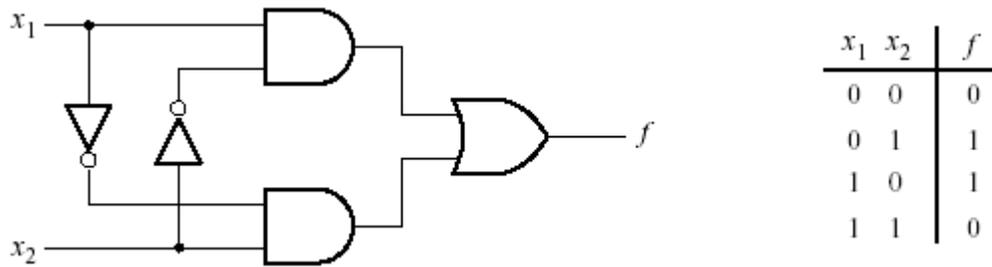
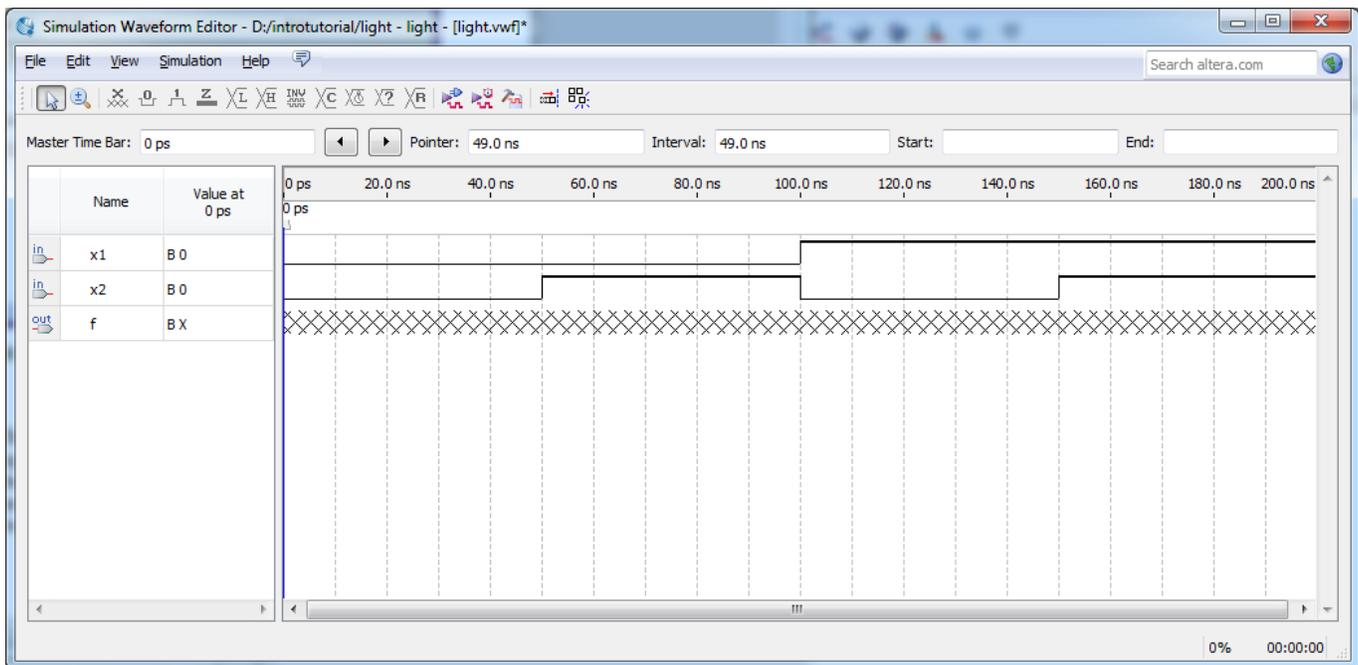

Figure 9. The light controller circuit.
Figure 29. Setting of test values.
As a design example, we use the two-way light controller circuit shown in Figure 10. The circuit can be used to control a single light from either of the two switches,  $x_1$  and  $x_2$ , where a closed switch corresponds to the logic value 1. The truth table for the circuit is also given in the figure. This is just an Exclusive-OR function of the inputs  $x_1$  and  $x_2$ , but we will specify it using the gates shown in Figure 9.
To simulate the behavior of a large circuit, it is necessary to apply a sufficient number of input valuations and observe the expected values of the outputs. In a large circuit the number of possible input valuations may be huge, so in practice we choose a relatively small (but representative) sample of these input valuations. However, for our tiny circuit we can simulate all four input valuations given in Figure 9. We will use four 50-ns time intervals to apply the four test vectors. We can generate the desired input waveforms as follows. Click on the waveform name for the  $x1$  node. Once a waveform is selected, the editing commands in the Waveform Editor can be used to draw the desired waveforms. Commands are available for setting a selected signal to 0, 1, unknown (X), high impedance (Z), don't care (DC), inverting its existing value (INV), or defining a clock waveform. Each command can be activated by using the **Edit > Value** command, or via the toolbar for the Waveform Editor. The Edit menu can also be opened by right-clicking on a waveform name.
Set  $x1$  to 0 in the time interval 0 to 100 ns, which is probably already set by default. Next, set  $x1$  to 1 in the time interval 100 to 200 ns. Do this by pressing the mouse at the start of the interval and dragging it to its end, which highlights the selected interval, and choosing the logic value 1 in the toolbar. Make  $x2 = 1$  from 50 to 100 ns and also from 150 to 200 ns, which corresponds to the truth table in Figure 9. This should produce the image in Figure 29. Observe that the output  $f$  is displayed as having an unknown value at this time, which is indicated by a hashed pattern; its value will be determined during simulation. Save the file.
Having downloaded the configuration data into the FPGA device, you can now test the implemented circuit. Make sure that the RUN/PROG switch is at the RUN position. Try all four valuations of the input variables  $x_1$  and  $x_2$ , by setting the corresponding states of the switches SW1 and SW0. Verify that the circuit implements the truth table in Figure 9. If you want to make changes in the designed circuit, first close the Programmer window. Then make the desired changes in the VHDL design file, compile the circuit, and program the board as explained above.